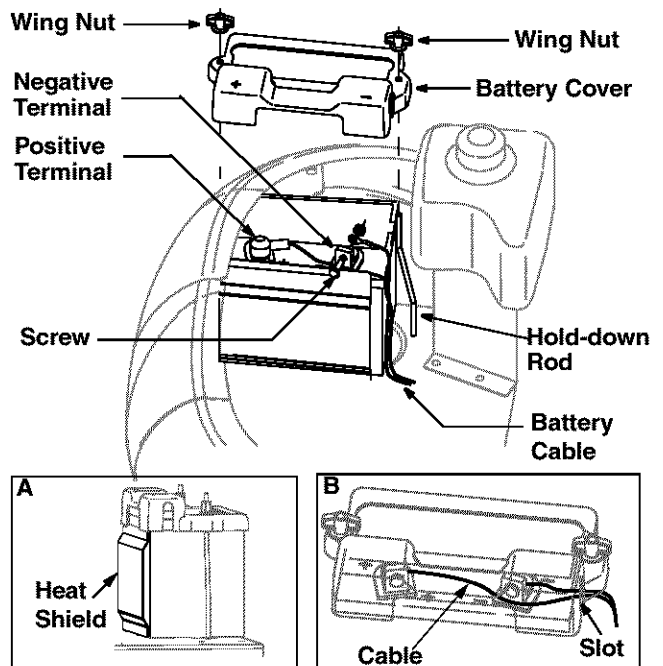

Figure 20
1. Remove wing nut on the battery hold-down rod at each end of the battery cover. See Figure 20.
4. Attach the red battery cable to this positive terminal and tighten securely. See Figure 20 .
6. Attach the black battery cable to this negative terminal on the battery and tighten securely. See Figure 20 .
7. Reposition the battery cover on top of the battery, making sure it goes over the flange of the nearby heat shield. See Inset A in Figure 20 . Tuck away the battery cables completely under the battery cover. See Inset B in Figure 20 . Check to ensure that the cables pass easily through slots in the battery cover.